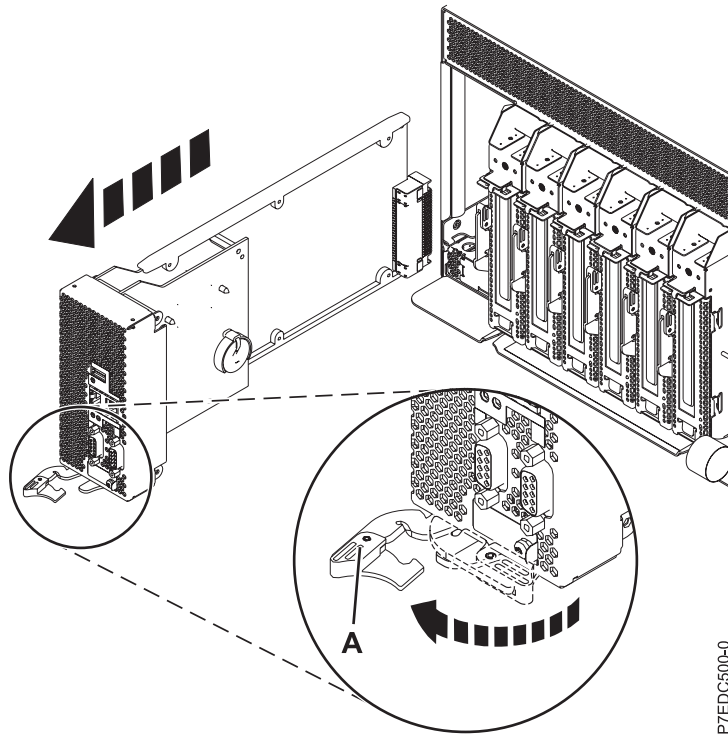

Figure 2. Removing the service processor card
- a. Rotate the locking lever (A) in the direction shown to unseat the service processor card. See Figure 2 on page 5.